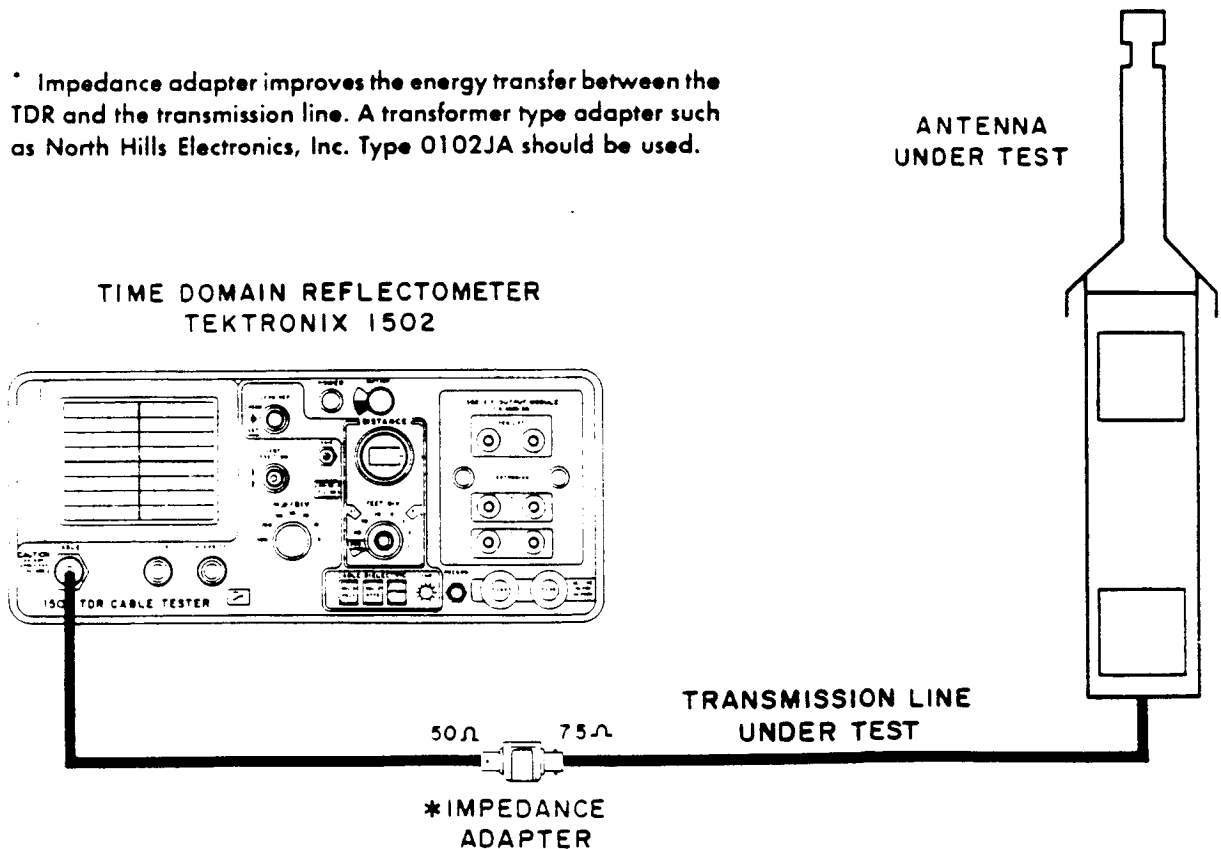

FIGURE 2-4. TEK 1502 Time Domain Reflectometer, Test Diagram.
**2.4.2.1 Specifications.** The TEK 1502 TDR can resolve discontinuities located as close as 0.1 foot (2.5cm) apart, and as far away as 2000 feet (500 meters) in polyethylene dielectric cable. Due to the fast risetime of the transmitted pulse, the TEK 1502 TDR emits a broad band of frequencies ranging from DC to approximately 9 GHz. Therefore, all discontinuities, including small capacitive and inductive impedances, excited by this range of frequencies can be detected. This broad frequency spectrum may also interfere with very sensitive receivers. However, any interference should be minimal since the amplitude of the transmitted pulse is only 0.225 volts. The Tektronix 1502 TDR does not have a tuneable interference filter, therefore it may not work when plotting the signature of an antenna in a strong signal environment. Figure 2-4 shows the TEK 1502 TDR connected in a typical test of an antenna and a transmission line. A description of the TEK 1502 TDR front panel controls and connectors is provided in Table 2-7.
2. For the antenna/transmission line under test, disconnect the RG-12 transmission line from the director coupler at the back of the primary multicoupler. Then connect the TDR to the RG-12 transmission line with 75 ohm coaxial cable. Figure 2-4 illustrates the TEK 1502 TDR test setup.